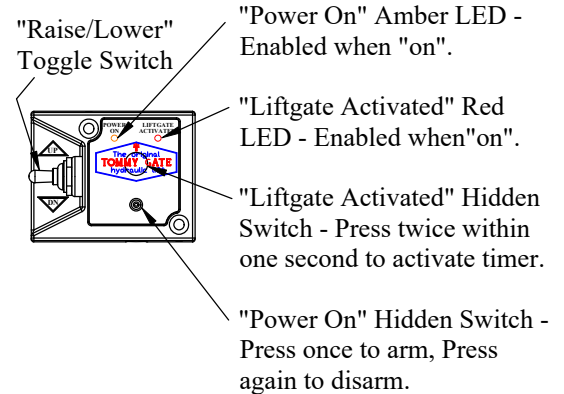

Figure 34: Control Terms.
4. To turn the control power on, press the "POWER ON" hidden switch once, marked with white rings or circles (located below the Tommy Gate logo). You should see the amber LED "POWER ON" light when the control is armed. To disarm the control press the "POWER ON" hidden switch again. Terms used for the control are shown in (Figure 34).